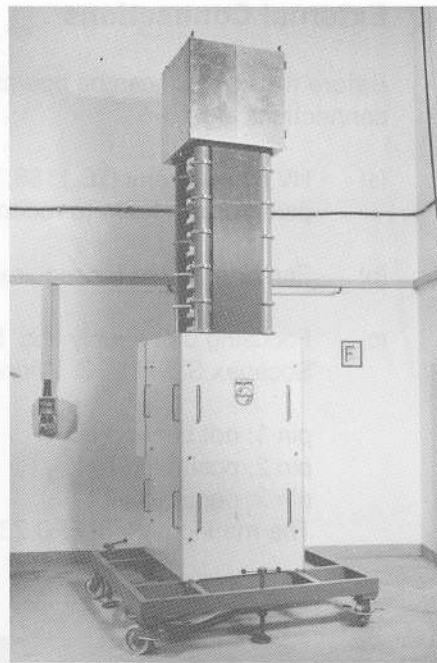

Fig. 49. Completed Assembly (1)
- (d) Completed assembly is shown in Figs. 49 and 50.